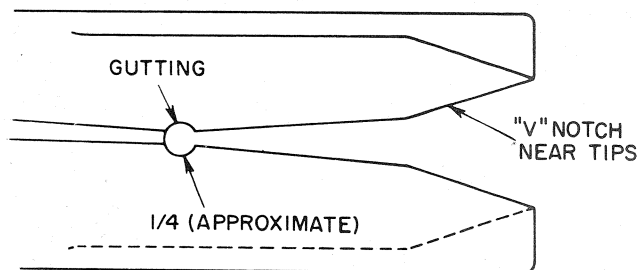

Fig. 21. Arc barrier with excessive gutting at "V" notch
1. The arc barriers or vanes inside the arc chutes must be checked for excessive gutting from the arcing at the "V" notches. Excessively gutted vanes, those having enlargements 1/4-inch or greater, must be replaced. (See Fig. 21.)